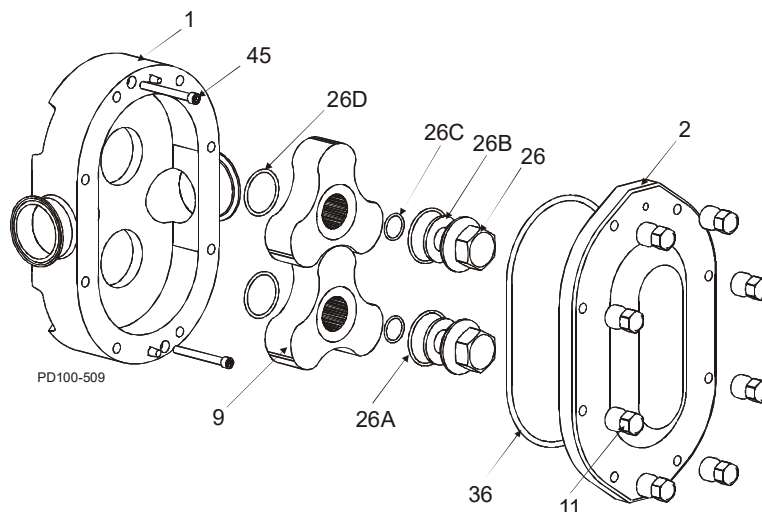

Figure 79 - Exploded View of Fluid Head
2. Install the body (Figure 79, item 1) to the gear case assembly, aligning the body with the body studs. Avoid damaging the seals as the body is drawn over the shafts.
3. Secure the body to the gear case using two cap screws (Figure 79, item 45).
1. Lubricate the O-ring (Figure 79, item 26D) with a lubrication compound compatible with the O-ring material and process fluid(s).
2. Install the new rotor hub O-rings (item 26D) into the groove in the rear of the rotor.
3. Install the rotors (item 9) onto the shafts with the O-ring toward the gear case.
Table 11: Callouts for Figure 79
1. Install the belleville-style washer (Figure 79, item 26B) into rotor nut with raised side of washer toward rotor nut.
2. Place the retainer O-ring (item 26C) into rotor nut to retain the belleville-style washer. The washer should not be tight against the O-ring.
3. Lubricate the new rotor nut O-ring (item 26A) with a lubrication compound compatible with the O-ring material and process fluid(s). If the O-ring is not lubricated it will pucker when tightening the rotor nut.
7. Screw the rotor nuts (Figure 79, item 26) onto the shafts (clockwise) and tighten them to the torque specified in Table 12.
1. Clean the cover O-ring (Figure 79, item 36) and install it in the groove in the cover.
3. Install the cover (Figure 79, item 2) on the pump body.
5. Tighten the cover securely using the cover nuts (Figure 79, item 11). See Table 13 for cover nut torque values.